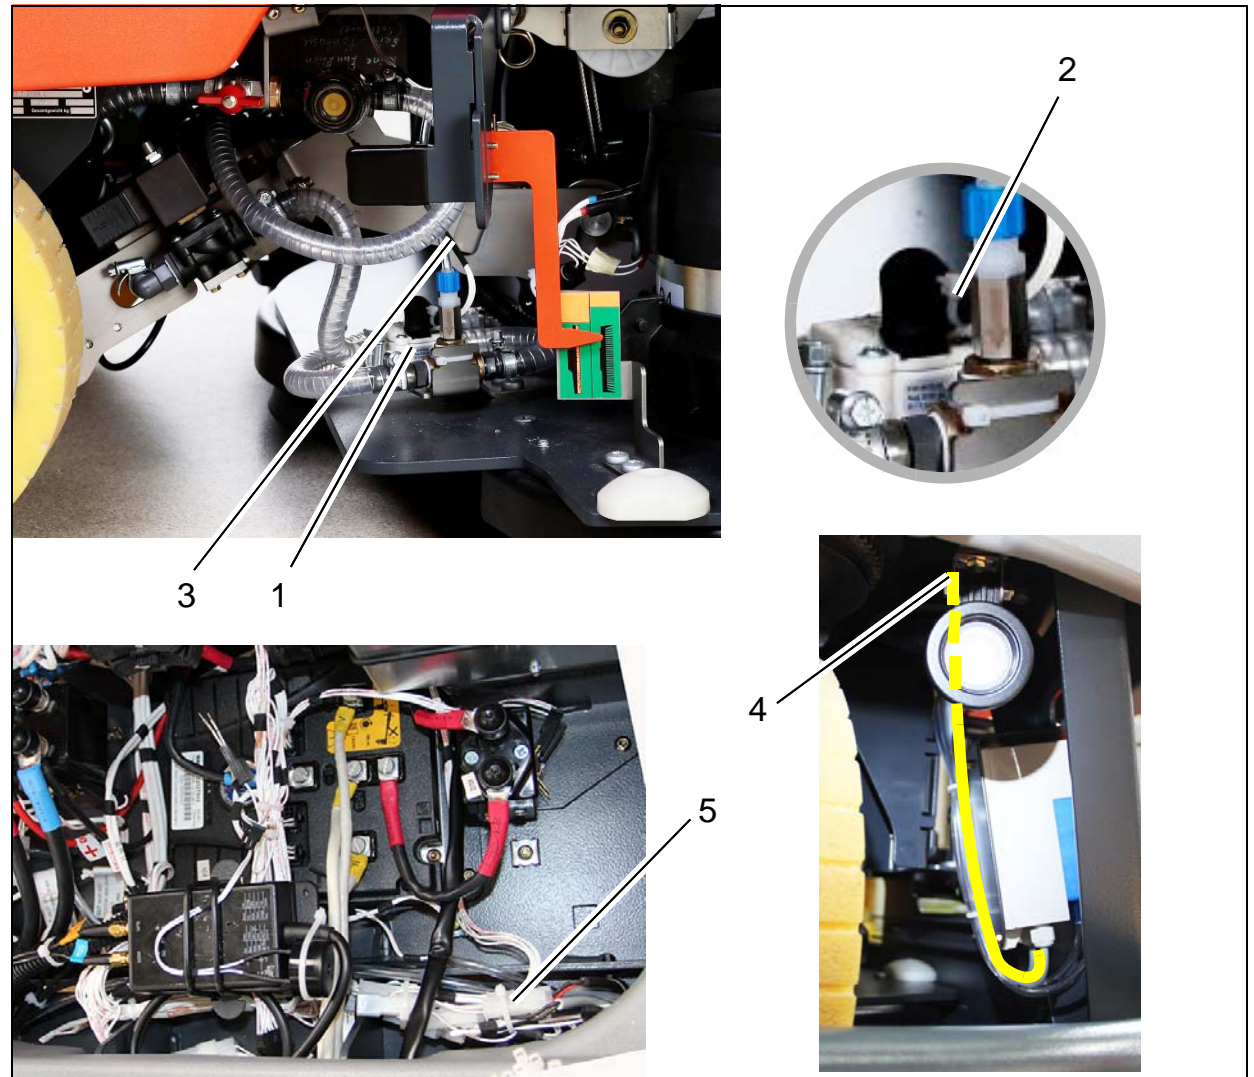

Fig. 7
1. Connect 3-pole plug of cable loom W102 to the flow sensor (Fig. 7/1).
2. Slide protective cap over the plug housing and fix with cable ties (Fig. 7/2).
3. Run cable loom W102 along the hose from the non-return valve (Fig. 7/3) into the electronics compartment and fix in position using cable ties.
4. Lead the dosing pump connection cables through the opening in the chassis (Fig. 7/4) into the electronics compartment and connect them to cable loom W2 (A101/X1) and W102 (A101/X2) (Fig. 7/5).